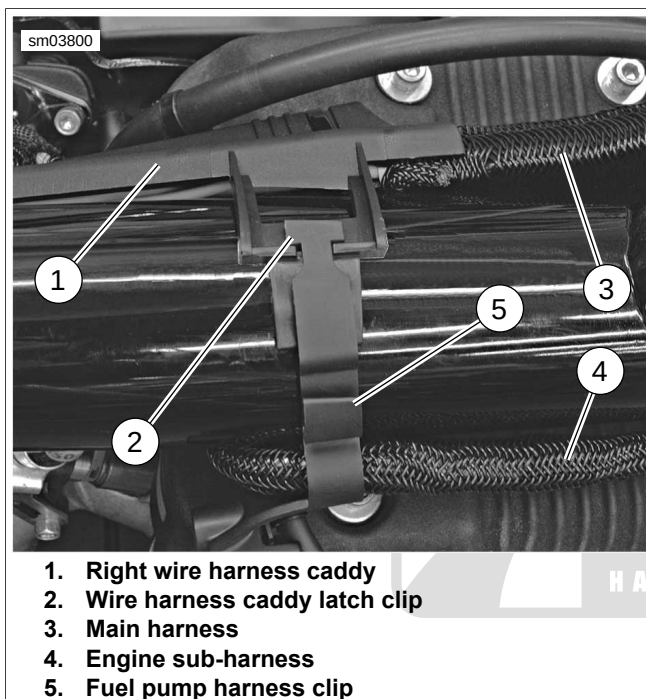

Figure 6-109. Right Wire Harness Caddy Latch Clip (typical)
See Figure 6-109. Verify fuel pump harness rests in harness clip (5) on wire harness caddy latch clip (2).